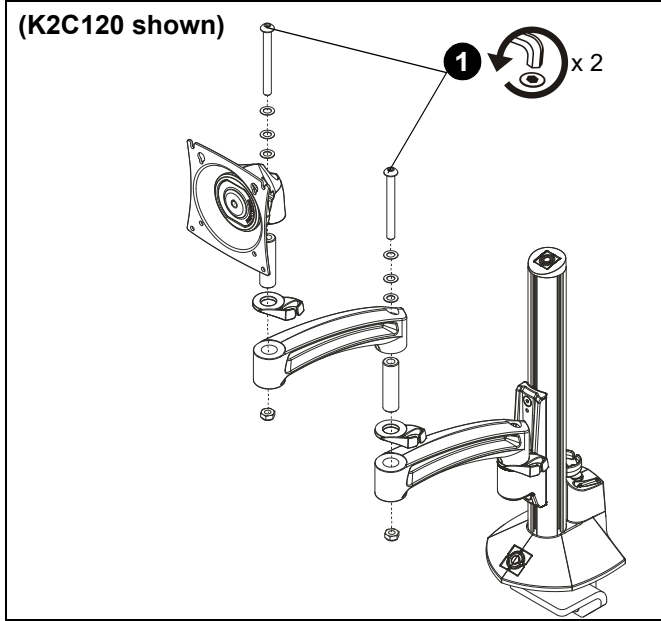

Figure 1
1. Remove arm to be replaced from mount by loosening button head cap screws until arm is completely disengaged from the bolts. (See Figure 1)
1. Remove display head from mount by loosening button head cap screw until head is completely disengaged from the bolt. (See Figure 1)